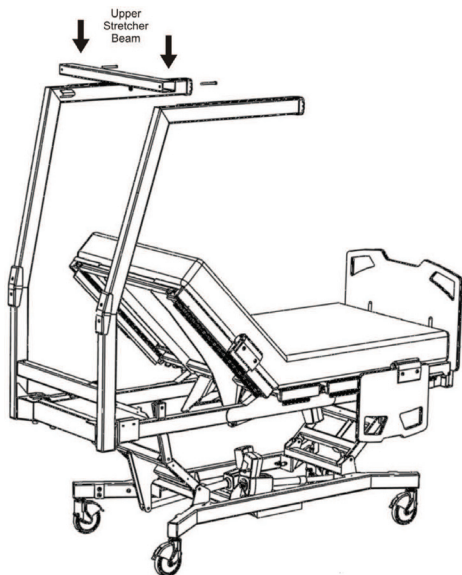

Figure 6
- Install upper stretcher beam to the patient helper frame, loosely bolt with 3/8" bolts (2) and nylon locking nuts (2) (see Figure 6).
- Slide carriage assembly as far rearward as possible to the head end of bed. Tighten the upper stretcher nuts from step 7 (see Figure 6).